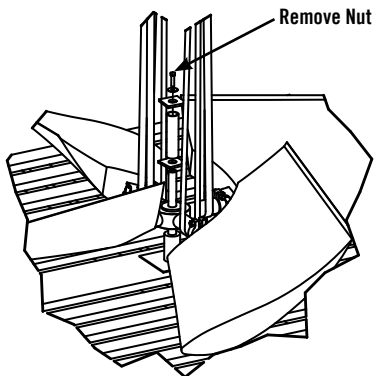

Figure 37. Remove Shipping Restraint
3. Remove bolt, PVC spacer, and plywood spacers from the shipping mount (**Figure 37**).